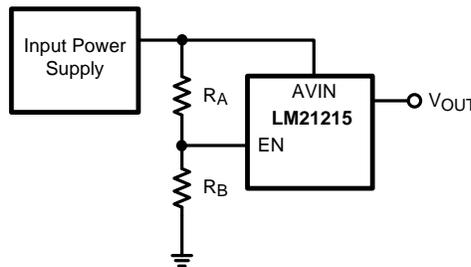

Figure 29. Enable Startup Through V_{in}
The LM21215 has a built-in under-voltage lockout protection circuit that keeps the device from switching until the input voltage reaches 2.7V (typical). The UVLO threshold has 200 mV of hysteresis that keeps the device from responding to power-on glitches during start up. If desired the turn-on point of the supply can be changed by using the precision enable pin and a resistor divider network connected to VIN as shown in Figure 29 in the design guide.
The enable (EN) pin of the LM21215 allows the output to be toggled on and off. This pin is a precision analog input. When the voltage exceeds 1.35V, the controller will try to regulate the output voltage as long as the input voltage has exceeded the UVLO voltage of 2.70V. There is an internal current source connected to EN so if enable is not used, the device will turn on automatically. If EN is not toggled directly the device can be preprogrammed to turn on at a certain input voltage higher than the UVLO voltage. This can be done with an external resistor divider from V_{IN} to EN and EN to AGND as shown below in Figure 29.